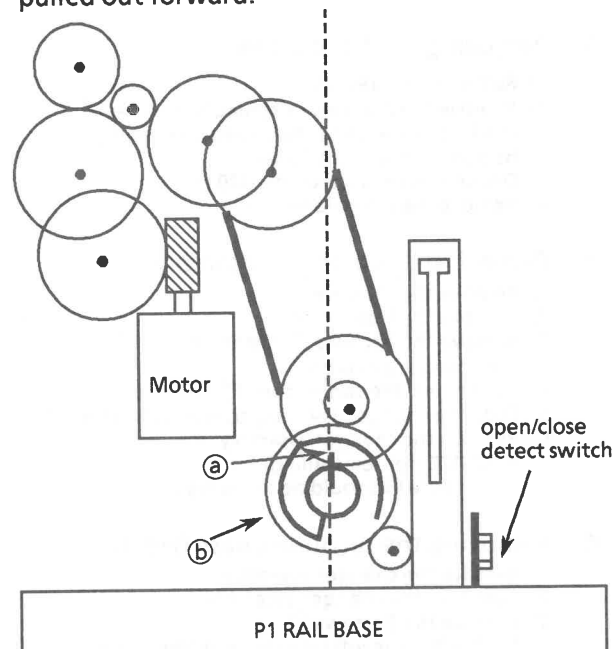

Fig.7
- 2) Remove the screw ① fixing the open/close sw and the sw.
- 3) Pull the P1 RAIL BASE by pulling up the hook ② slightly.
※ Install gear ③ so that part ④ shown in fig.7 is perpendicular to the P1 rail base.